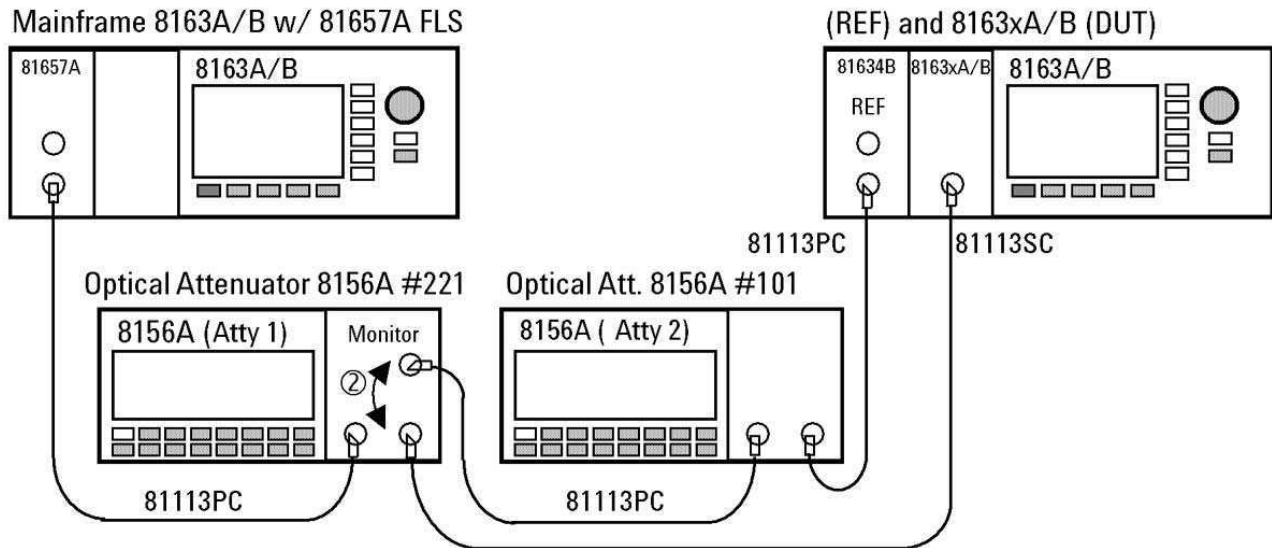

Figure 4 Measurement Setup for Power Linearity
- 3 Setup the equipment as shown in Figure 4 . Disable both attenuators and enable the laser source, where the source wavelength is chosen to 1550 nm. If you are using the 81657A, move to the wavelength parameter,  $[\lambda]$ , press *Enter*, select the longer wavelength source (1550 nm nominally), and press *Enter*.